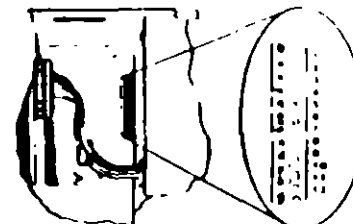

Figure 5. System Board Resistance
- Check for resistance as shown in Figure 5 on page 0020-9.